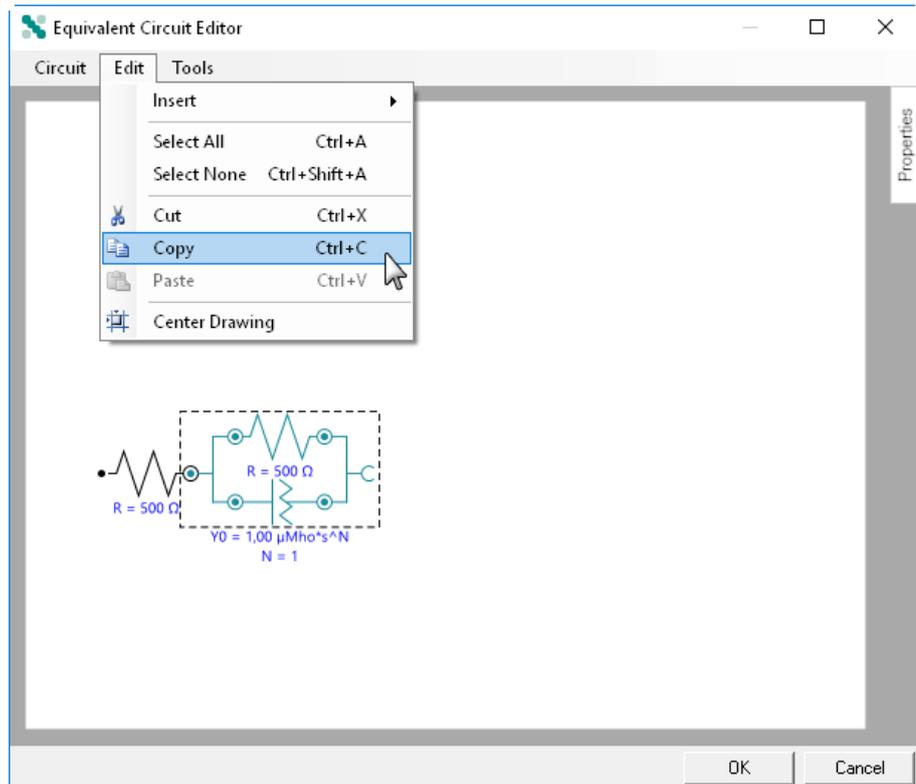

Figure 500 Selected circuit elements can be copied/pasted directly in the editor
- Copy/Cut and Paste element(s): select one or more elements in the equivalent editor by dragging a box around the circuit element and selecting the *Copy* or *Cut* option from the **Edit** menu (or the right-click menu or the **[CTRL] + [C]** and **[CTRL] + [X]** keyboard shortcuts) to copy them to the clipboard (see figure 500, page 439). The copied elements can then be pasted into the equivalent circuit editor, using the *Paste* option from the **Edit** menu (or the right-click menu or the **[CTRL] + [V]** keyboard shortcut), as shown in Figure 7.9.2.6.